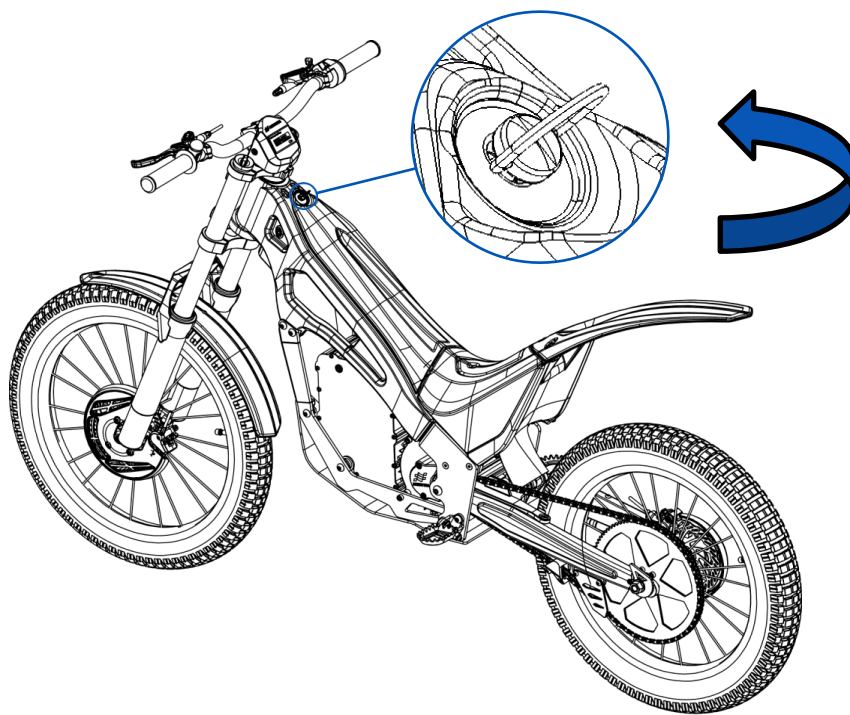

Fig. 36
2- Next, turn the quick screw located on the top (Figure 36) half a turn to the left. Remove it without removing it from the upper casing, to remove this component from the frame.
- 2- Next, turn the quick-release screw located on the top (Figure 36). Remove it without actually removing it from the upper casing, in order to remove this component from the frame.